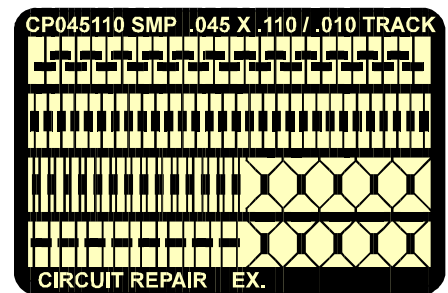

Figure 2: Select a replacement pad that matches the missing pad.
8. Select a replacement surface mount pad that most closely matches the surface mount pad to be replaced. If a special size or shape is needed they can be custom fabricated. (See Figure 2).